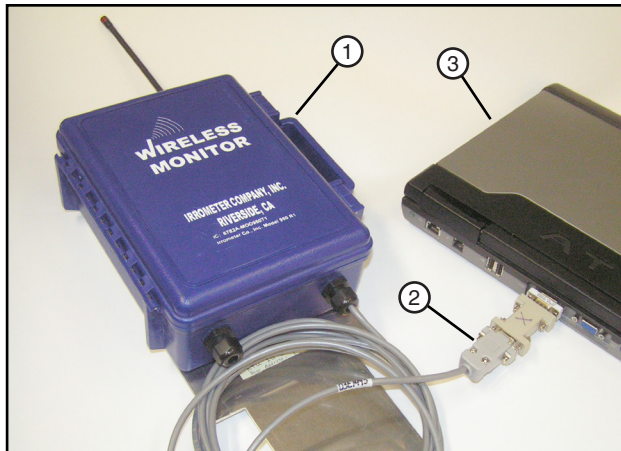

Figure 28-1 1. Wireless Monitor 3. Computer
- Use a null modem adapter and a gender changer to connect serial cable to the computer COM port. See figure 28-1.